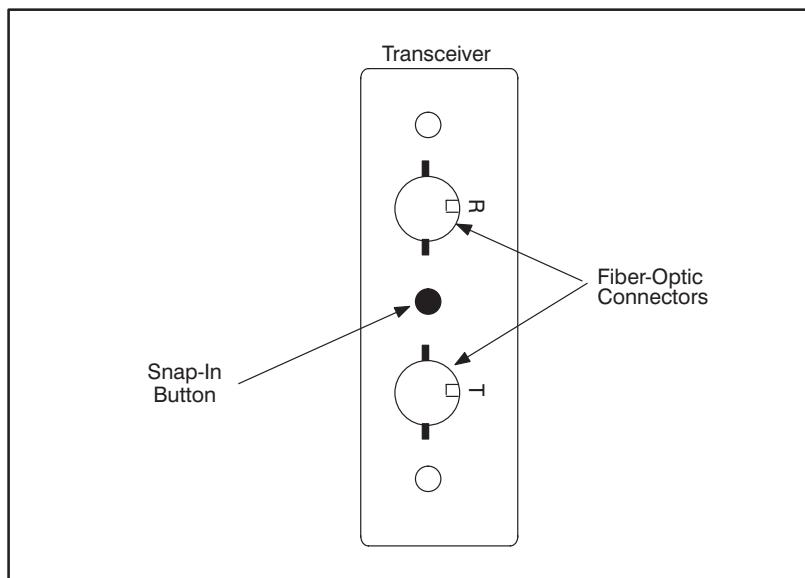

Figure K3.1 - Potentiometer Location
Step 3. The received signal duty cycle should be 50%. If it is not, then use the potentiometer on the transceiver to adjust it. The potentiometer is located between the two fiber-optic connectors as shown in figure K3.1. Remove the snap-in button to access and adjust the potentiometer.